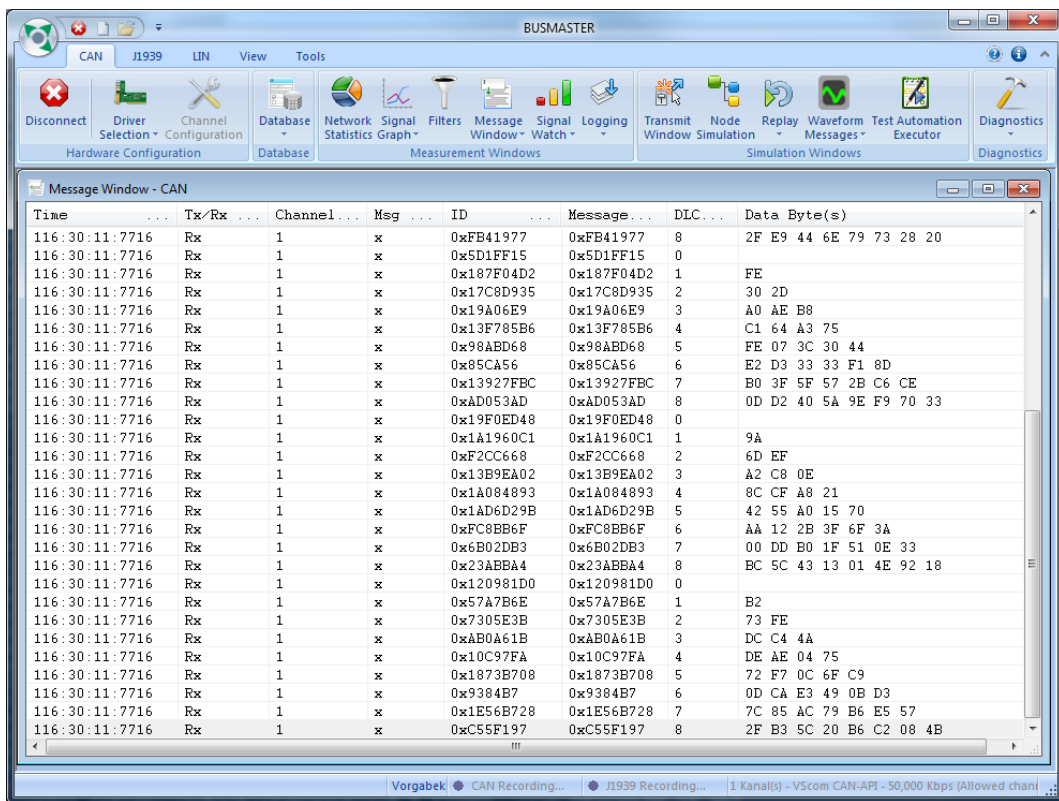

Figure 26: BUSMASTER: Received Frames
6. If there are CAN frames on your CAN bus, you’ll see them in the „Message Window” (see Figure 26)